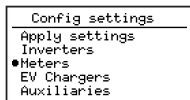

fig. 6: Config settings
- 3.1** Go back to the “Config settings” (fig. 6) with the  button, or navigate to it again if the menu has disappeared.